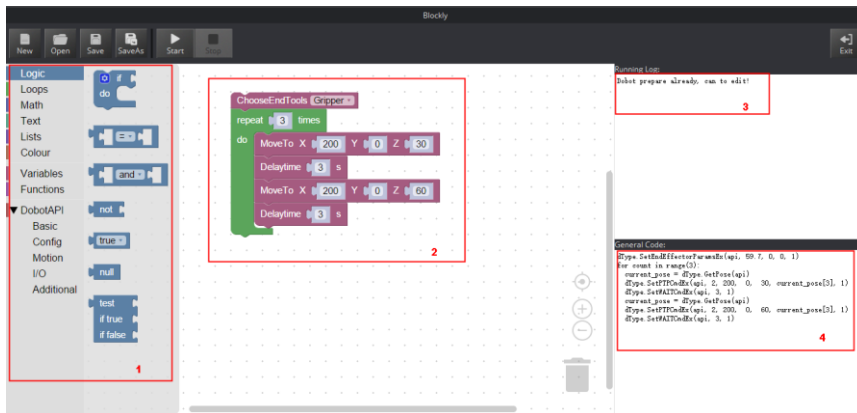

Figure 5.55 Blockly graphics programming
**Step 2** Drag the blockly module on the left pane of the **Blockly** page to program, as shown in Figure 5.55.
The demo in Figure 5.55 is described as follows.